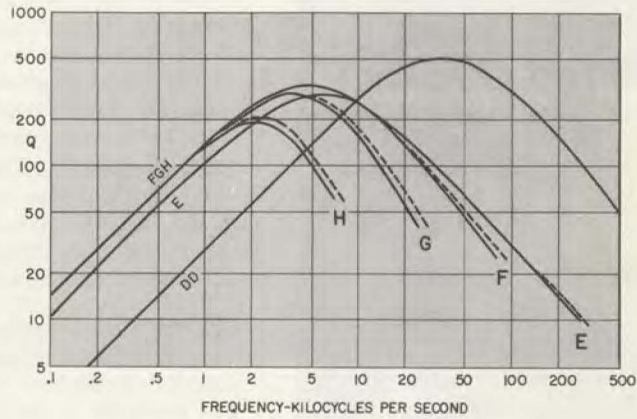

Figure 4. Variation of  $Q$  for the maximum inductance of each Type 940 Decade-Inductor Unit. Dashed curves correspond to use with chassis floating.
**Storage Factor,  $Q$ :** See Figure 4.